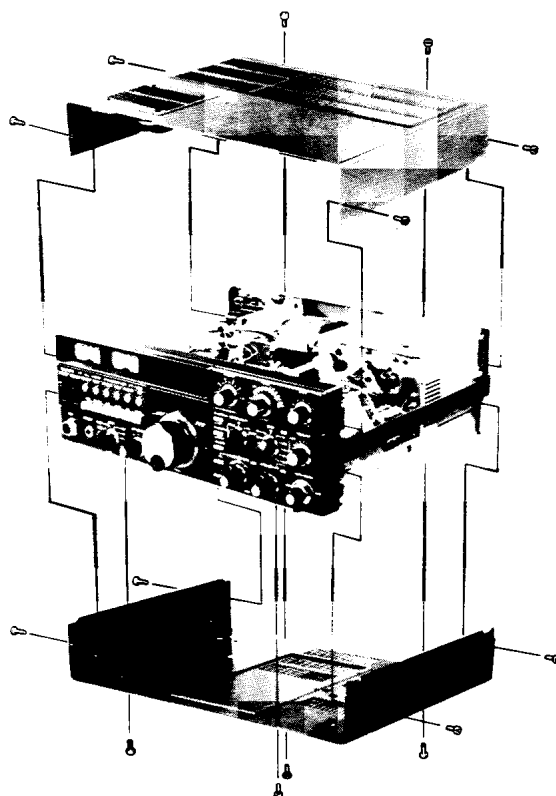

Figure 1
Disconnect the transceiver from the power source. Remove the two screws attaching the carrying handle, and then the 14 screws attaching the top and bottom covers as shown in Figure 1. Remove the handle and covers.
1. Place the FT-102 upside down on the work surface, and remove the six screws and the bottom sub-panel as shown in Figure 1.